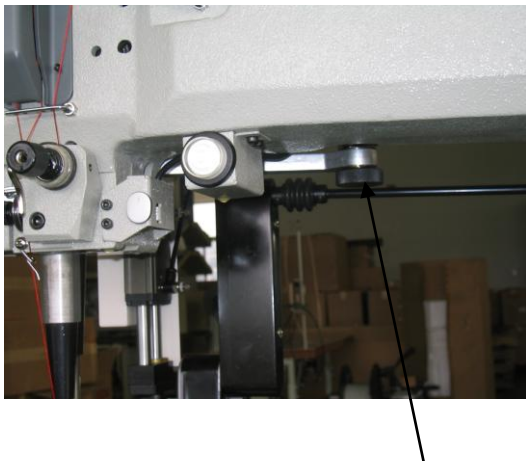

Fig.6
Loosen the nut(1),set the width of zigzag within the range (0-12mm) on the graduation of scale . Tighten the nut(1) after finished adjustment(Fig.6).